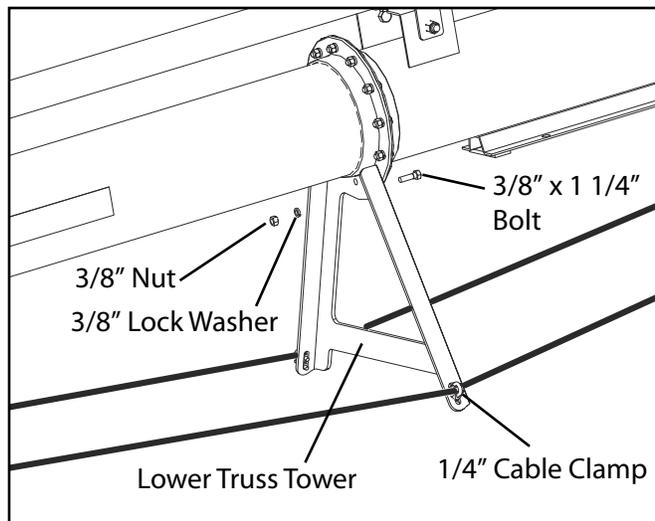

FIG. 3-9. Lower Truss Tower Mounting - 862
On the 862, also see Fig. 3-9.
1. Install the Lower Truss Tower on the under side of the tube flange using three 3/8" x 1 1/4" bolts, lock washers and nuts. See Fig. 3-9.
3. Mount the truss cables to the truss towers using 1/4" cable clamps as shown in Fig. 3-9. Do not tighten at this time.